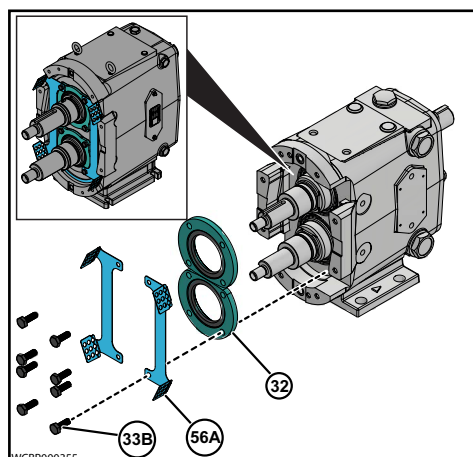

Figure 64 -Install Bearing Retainer and Seal Guard
NOTE: The Figure 64 is shown for reference only. This step applies only to rectangular flange bodies.
21. Install the Bearing Retainers (32) and Seal Guard-Vertical (56A). Tighten them with bearing retainer screws (33B), as shown in Figure 64.